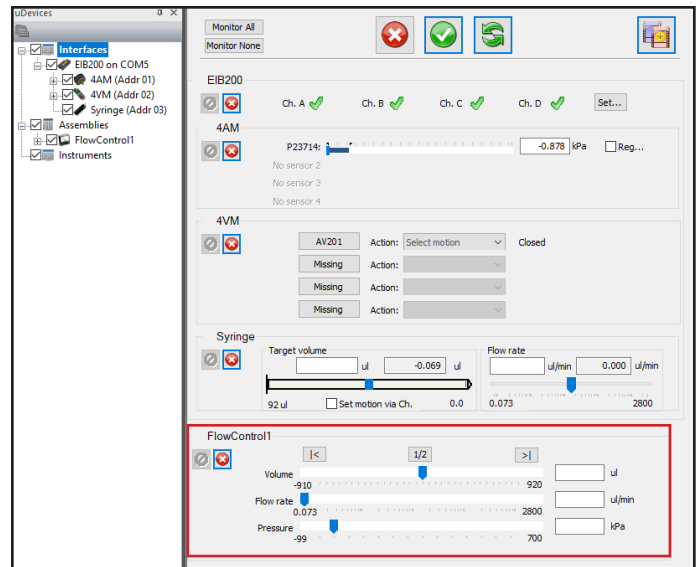

Fig. 12
12) In the **uDevices panel**, click **Interfaces** and scroll down to the flow controller (Fig. 12).